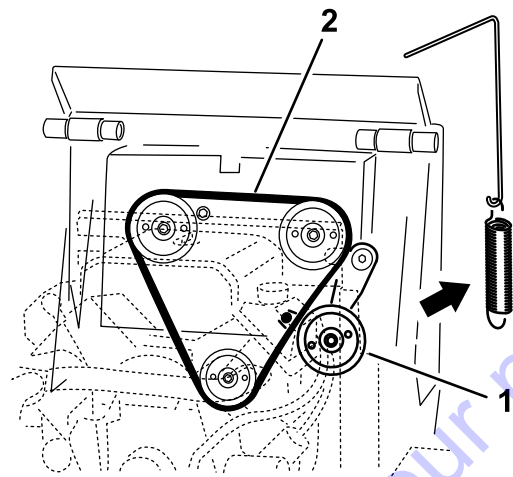

Figure 53
5. Remove the idler pulley spring from the idler-pulley assembly (Figure 53).
7. Install a new drive belt around the 3 pulleys (Figure 53).